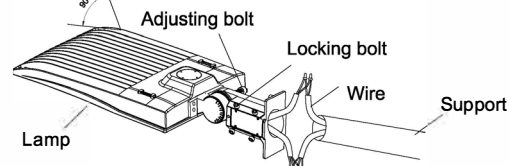

Figure 20
Step 2. Loosen the four bolts on MM bracket, connect the wires correctly, and pull the wires into the poles (Figure 20)
Step 3. Place the bracket into the pole and lock the four bolts (Figure 20)
Notice: Adjustable angle is 0-90° (Figure 20)